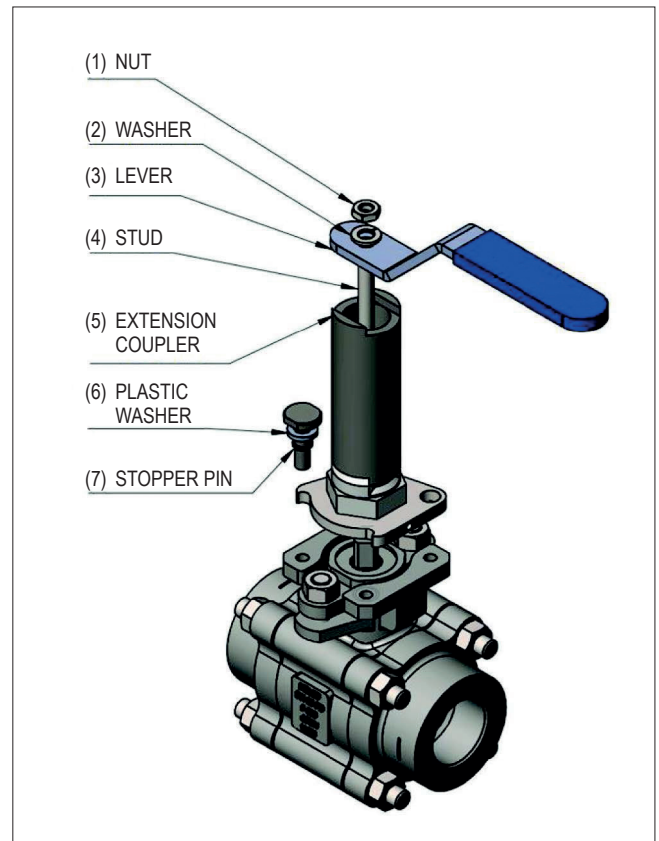

Fig. 1
2. Install the extension coupler (5) on the valve stem such that it should properly suit the valve stem.
3. Install the stopper pin (7) on the ISO pad. Use the provided plastic washer (6) if the axial movement is high.
4. Ensure the position of the extension coupler (5) and stopper pin (7) as shown in the Figure 1.
5. Engage the stud (4) in the provided threads on the top of the extension coupler (5) and ensure that stud is positively secured against loosening.
6. Mount the lever (3) (provided in the extension kit) in the slot provided on the top of the extension coupler (5).
7. Install the washer (2) and stem nut (1) on the top of the lever to secure the lever with extension coupler (5).